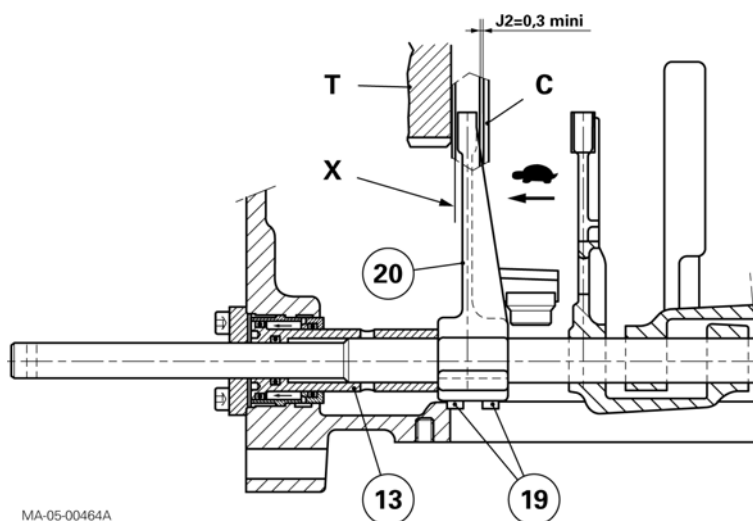

Fig. 22
75. Position the control piston (13) and the sliding coupler "C" in the low range (Tortoise) (Fig. 22).
76. Check that there is a clearance of **J2 = 0.3 minimum** (this value is determined by the clearance J1) between the pad and the sliding coupler when the latter rests against the gear "T" of the low range (Fig. 22)